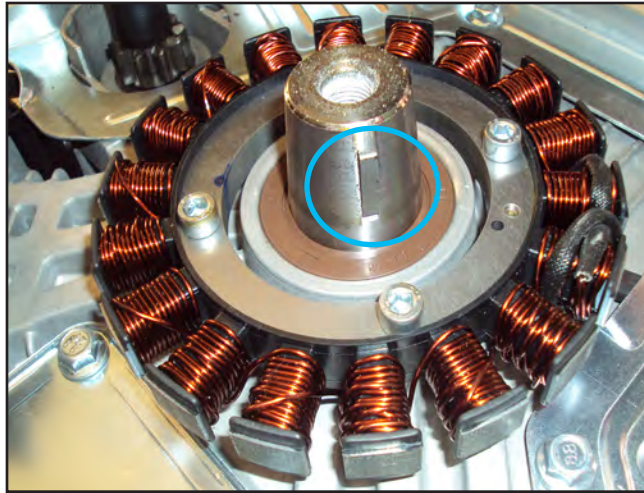

Figure 12
6. Remove the flywheel key with a side cutter or pliers (Figure 12).